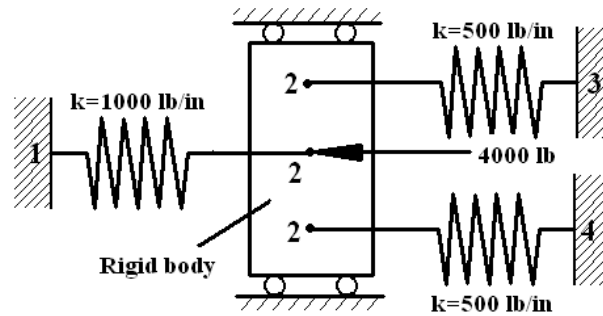

Figure 4
- 2B. Use the principle of minimum potential energy to solve the spring problems (05) shown in Figure 4. Find the nodal displacement.